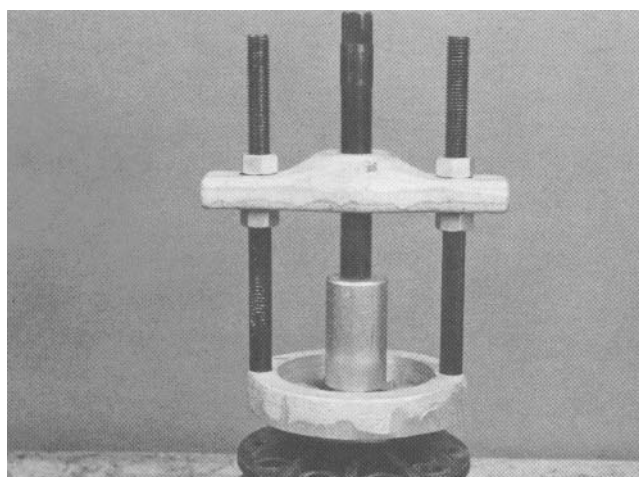

Figure 26
6. Do not remove the bearings from the differential case unless bearing failure is evident. It is recommended that whenever bearings are removed (regardless of usage) they must be replaced with new ones. Remove the case side bearing with a puller as shown (Fig. 26).